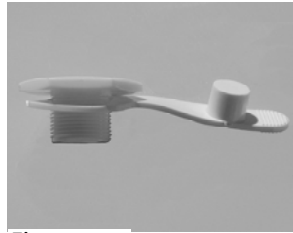
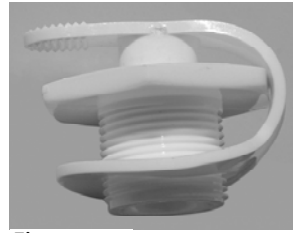

Figure: 8
Figure: 9
2. Fit the bailer cap into the hole of the plug so that the plug stopper faces upward (Figure 8). Fold the rubber plug over the cap to close (Figure 9).